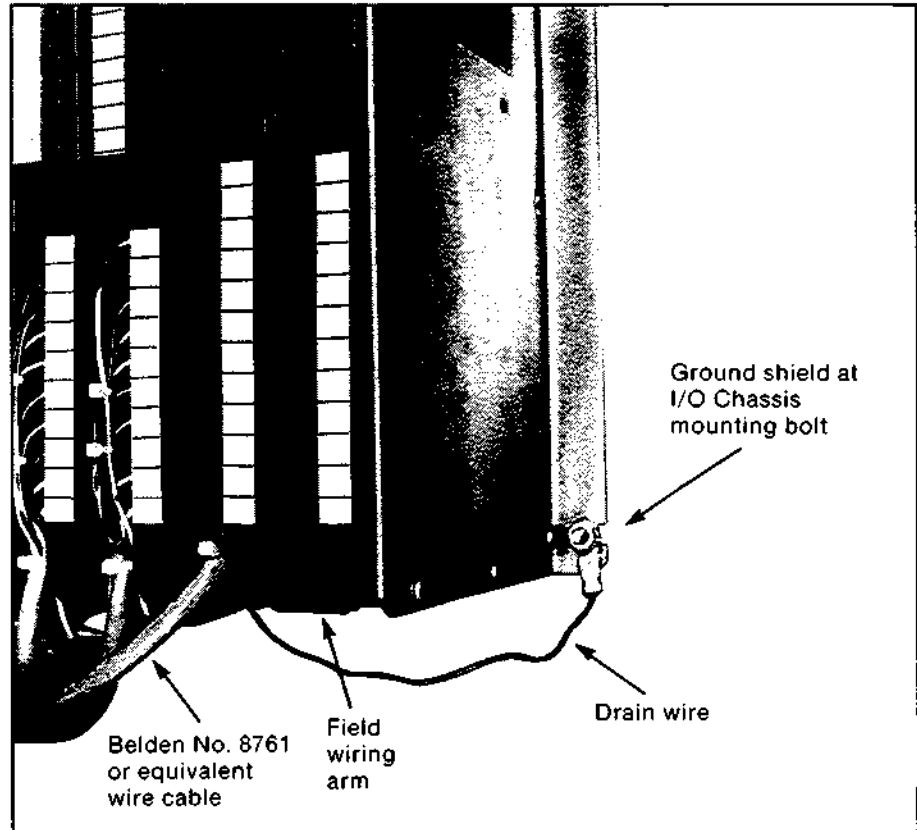

Figure 3.26 — Cable Shield Grounding
Step 5 — Connect the bare drain wire to ground. Route it from the wiring arm to an I/O chassis mounting bolt. The shield strand should be placed between the I/O chassis mounting bracket and the flat washer before the nut is tightened. A lug can be used (figure 3.26). In applications where many shielded cables are connected at a single I/O chassis it may be necessary to provide a ground bus for connection of many wires or to solder several drain wires together at a wiring arm so that only one drain is routed out.